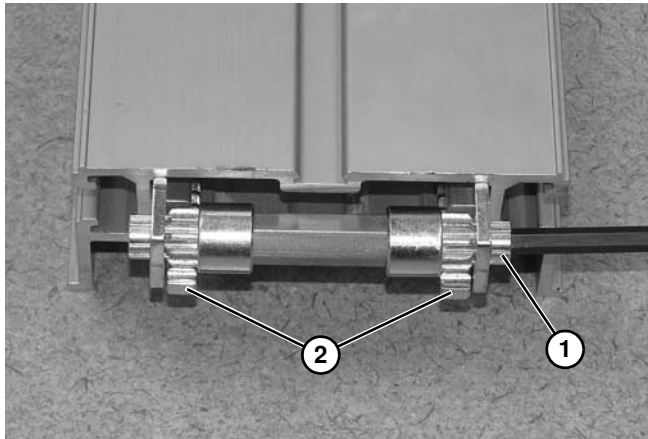

Figure 97
10. Rotate pinion (**Figure 97, item 1**) with hex wrench until gear racks (**Figure 97, item 2**) are fully collapsed.